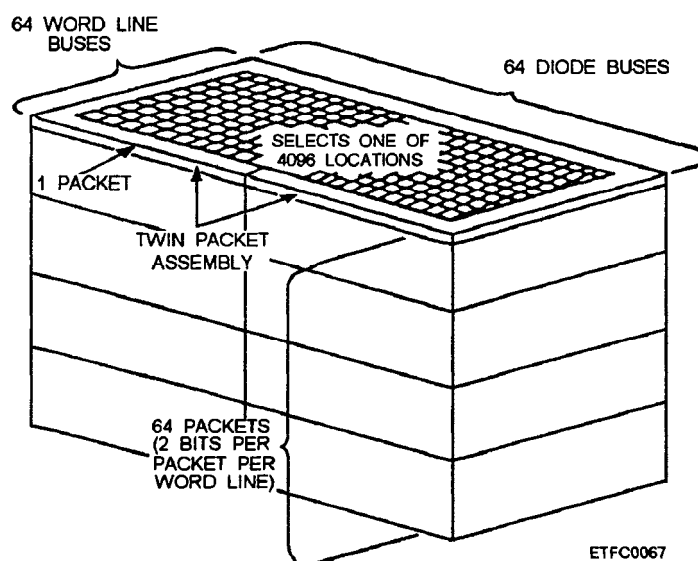

Figure 6-19.—Illustration of a memory stack.
**Memory Stack.**— In mated film memory, the packet is the building block of the film memory stack. The mated film memory stack contains all the film spots of the device, the associated circuitry that includes the word lines, sense/digit lines, and associated hardware. The associated hardware includes diode stick assemblies and boards (diverter, insulators, and ground planes, and alignment). Refer to figure 6-19 as an illustration of a memory stack.